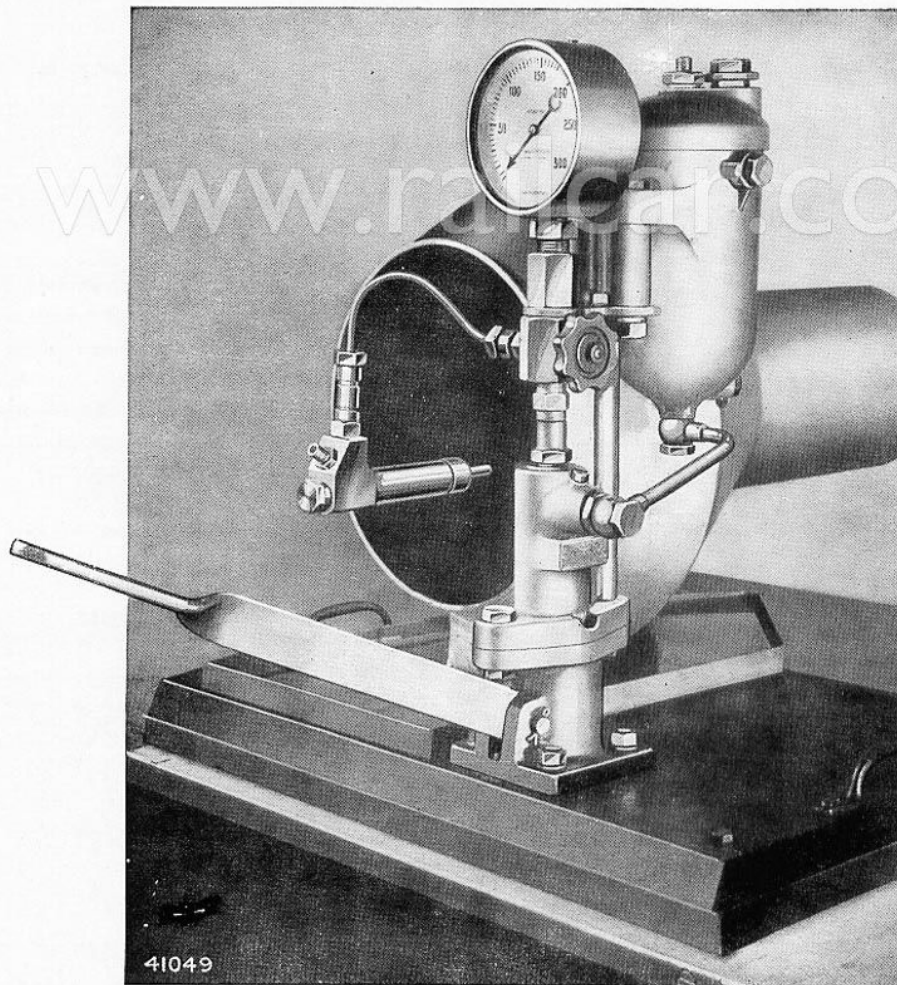

FIG. 2. INJECTOR UNIT TEST RIG
Place the nozzle body (see Fig. 10) in the flushing tool 7044/137 and wash it out backwards with clean fuel oil under pressure from the hand-test pump (see Fig. 2). The nozzle joint face should be arranged to point downwards when in this adaptor, in order to avoid dirt or carbon being pocketed in the nozzle recesses.
4. Connect the injector to the hand-test pump (Fig. 2); give the handle about ten strokes to expel all air from the pipe and injector.